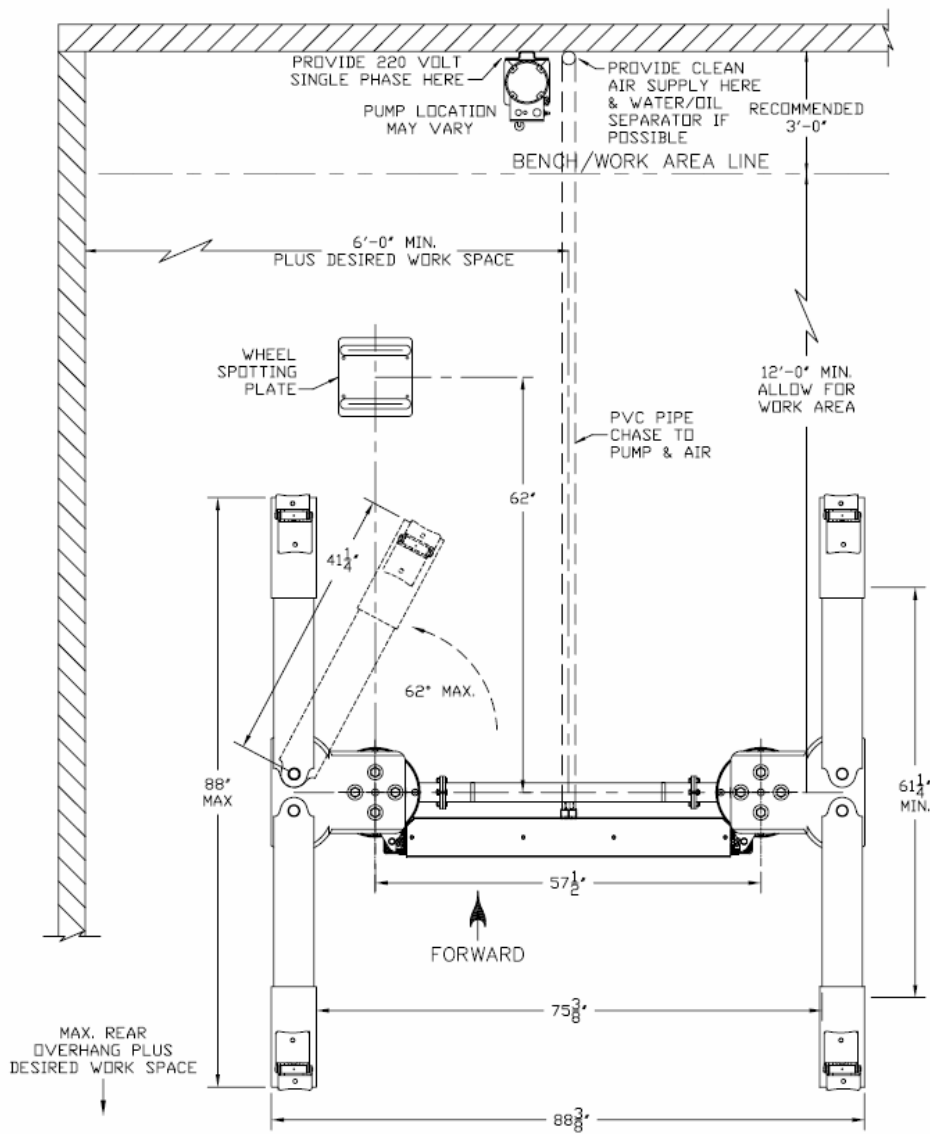

Figure 3 - Bay Layout
2. A minimum of 12 ft. of stall space is required from the center of both front and rear of lift to nearest obstruction. **Figure 3.**
13. Install the wheel spotting plate using the 1/4" anchors supplied in the hardware kit. Refer to **Figure 3** for location.